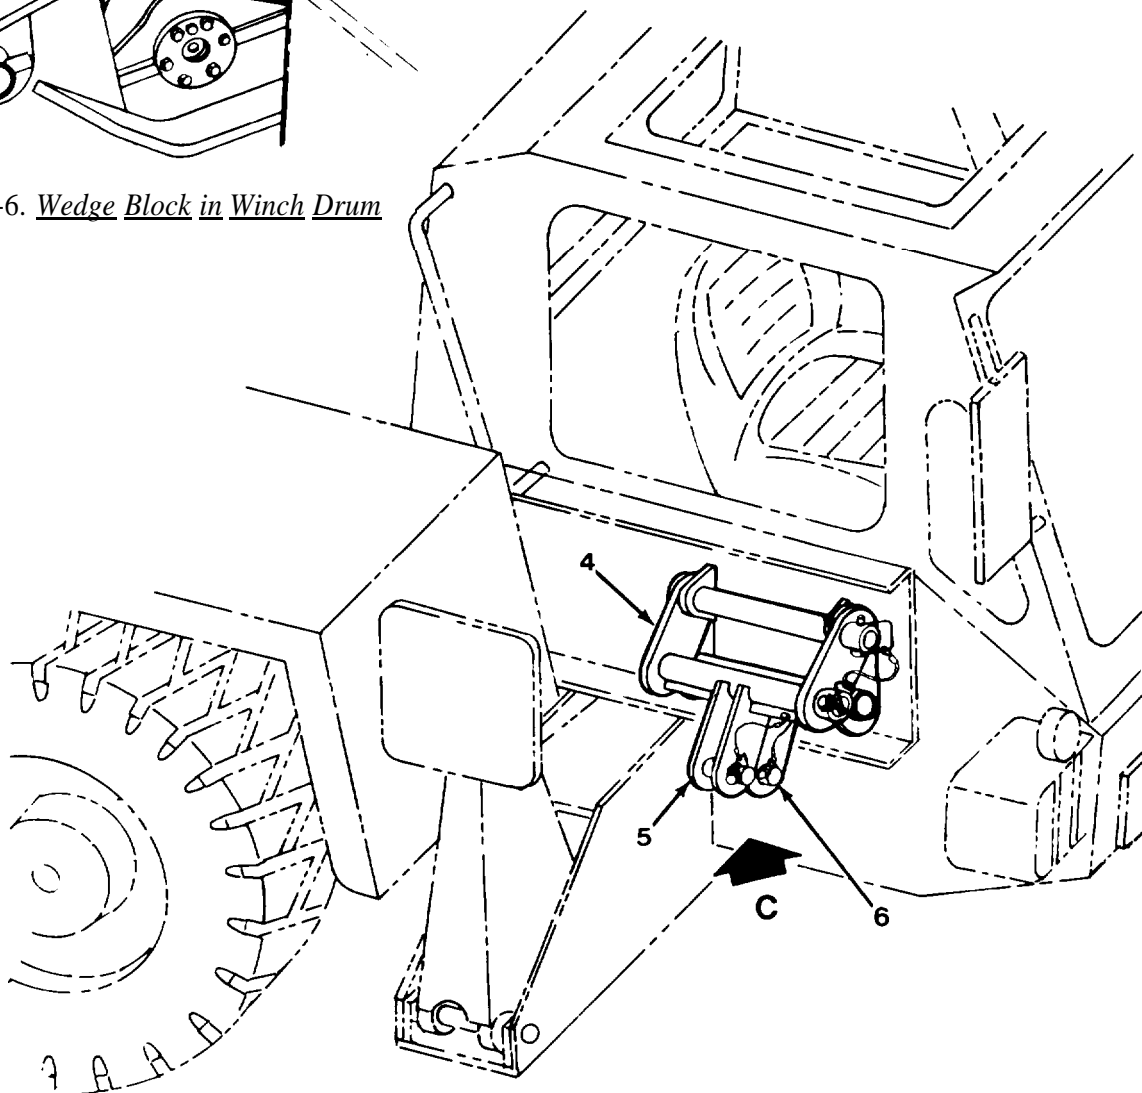
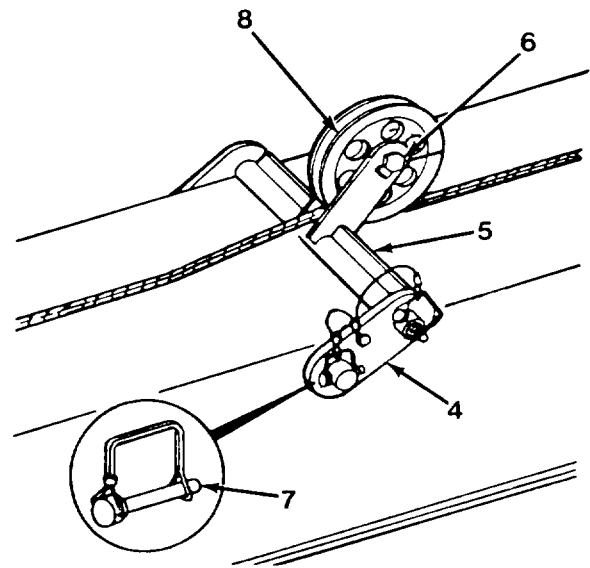

Figure 5-7. Storage Location C
Figure 5-8. *Installing Sheaves*
- a. Remove two right side attaching links (4) and toggle sheave brackets (5) from storage location C (Figure 5-7) on right front side of carrier frame.
- b. Remove two sheave pins (6) from toggle sheave brackets (5).
- c. Attach two toggle sheave brackets (5) and attaching links (4, Figure 5-8) to studs on top of boom. The cable should lay over two toggle sheave brackets (5), between ears. Secure two attaching links (4) and toggle sheave brackets (5) with two lynch pins (7) tethered to attaching links (4).
- d. Remove two sheaves (8) from tool box and install on toggle sheave brackets (5) with sheave pins (6). Make sure hex head of sheave pin (6) is aligned with key stock on toggle sheave bracket (5).